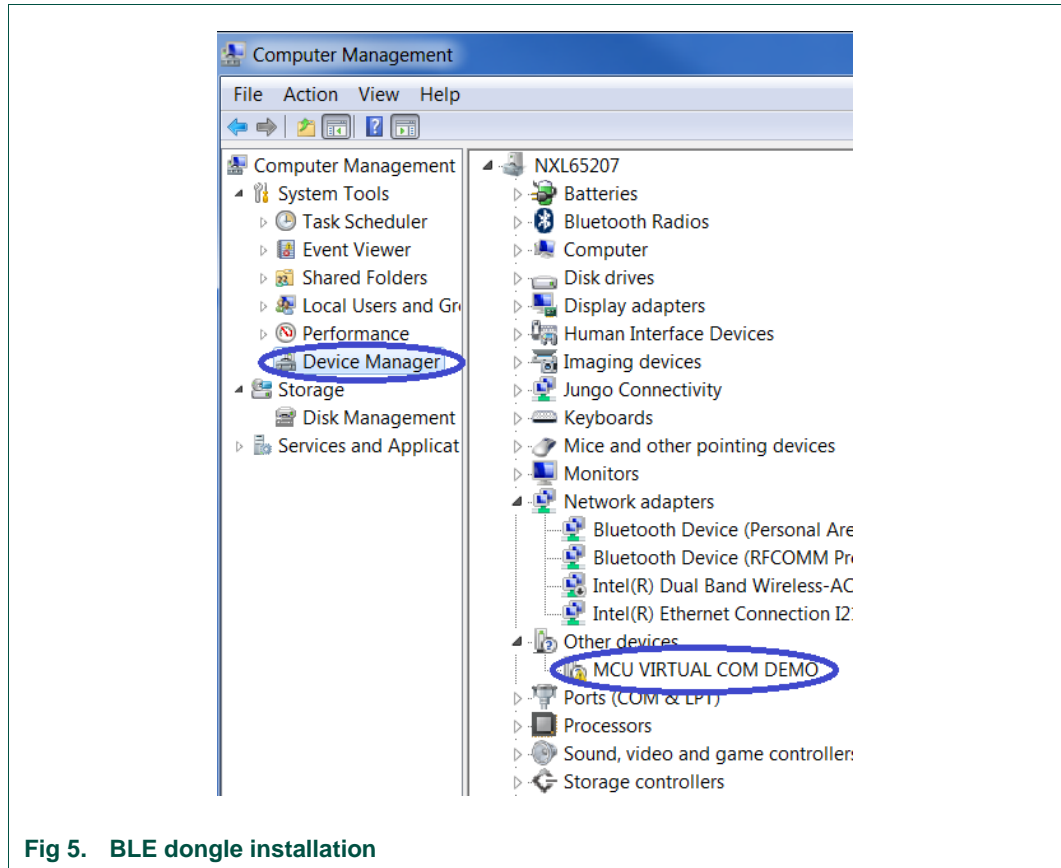

Fig 5. BLE dongle installation
2. Click Device Manager, navigate to MCU VIRTUAL COM DEMO on the right side, refer to Figure 5 for details.